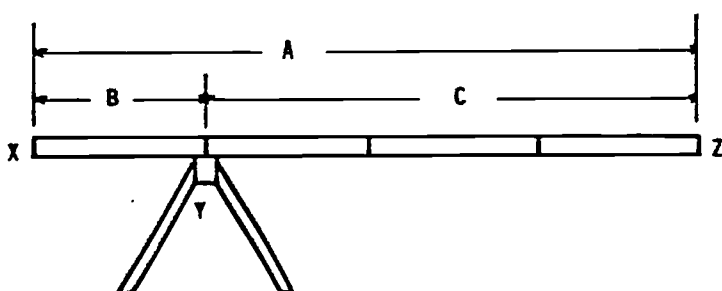

Fig. 25-3. Span Distances and Points
7. The weight of the vehicle at X we will call V. The distance between X and Y we will call B. The distance between Y and Z we will call C. The distance between X and Z or the total span we will call A. (Draw Fig. 25-3 on the chalkboard.)
10. Thus, 3 units of weight (bricks) at X will counterbalance the vehicle at Z. (Add 3 bricks at end X. You may have to adjust the weight location slightly because all of the bricks cannot be stacked exactly at point X. See Fig. 25-3.)